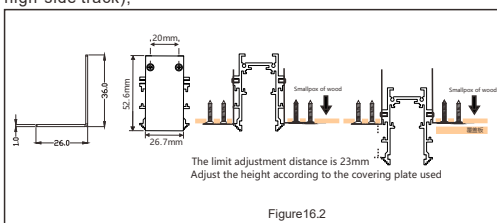

Figure16.2
3. Adjust the height of the fixed metal plate and select the installation method according to the height (Fig. 16.2)(Note: if the adjustment is too high, refer to the installation of the high-side track);
4. Install the hoisting line and fixing plate to the positioning mark on the track, and check whether the fittings are firmly installed; (See Figure 16.2)